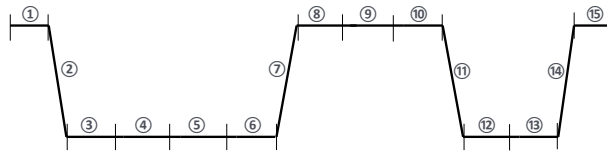

Figure 1: Sample Input to External Interrupt
6. Microcontrollers often provide several different ways of configuring interrupt triggering, such as *level detection* and *edge detection*. Suppose the signal shown in Figure 1 was connected to a microcontroller pin that was configured as an input and had the ability to trigger an interrupt based on certain signal conditions. List the cycles (or range of cycles) for which an external interrupt would be triggered if that pin's sense control was configured for: (a) rising edge detection, (b) falling edge detection, (c) low level detection, and (d) high level detection. Note: There should be no overlap in your answers, i.e., only one type of interrupt condition can be detected during a given cycle.